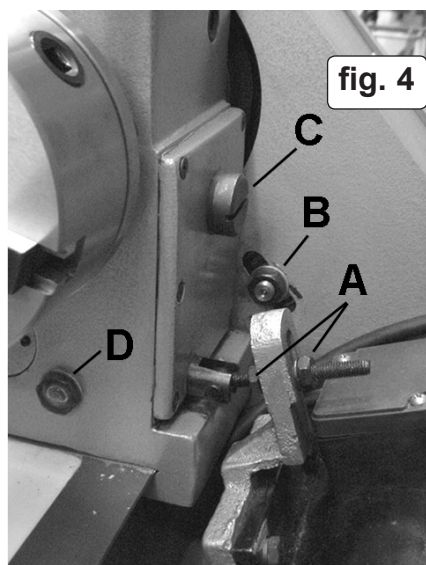

fig. 4
4.6.2. Slacken the motor adjuster nuts and the centre pulley nut (fig. 4.A & B).
- 5.4. Headstock oil level should be at centre of sight glass (fig. 4.D). If necessary top-up via plug (fig. 4.C)